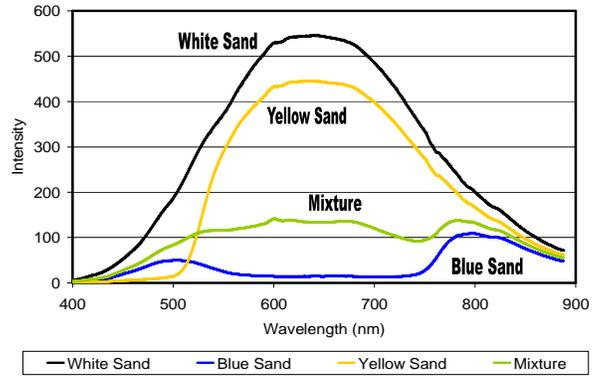

Figure 3. Spectra of three colored sand components and sample mixture spectra resulting in a composition of 12.5% white, 79.3% blue, and 8.2% yellow sand
**The experiment.** Consider the effect of cohesion caused by liquid bridge between particles on the segregation of bulk materials. Three differently colored sands – blue 70%, yellow 15%, and white 15% were – were used to generate segregation data. Figure 3 shows the averaged spectra of the three sand components used in the mixture. Note the different peaks at various wavelengths.